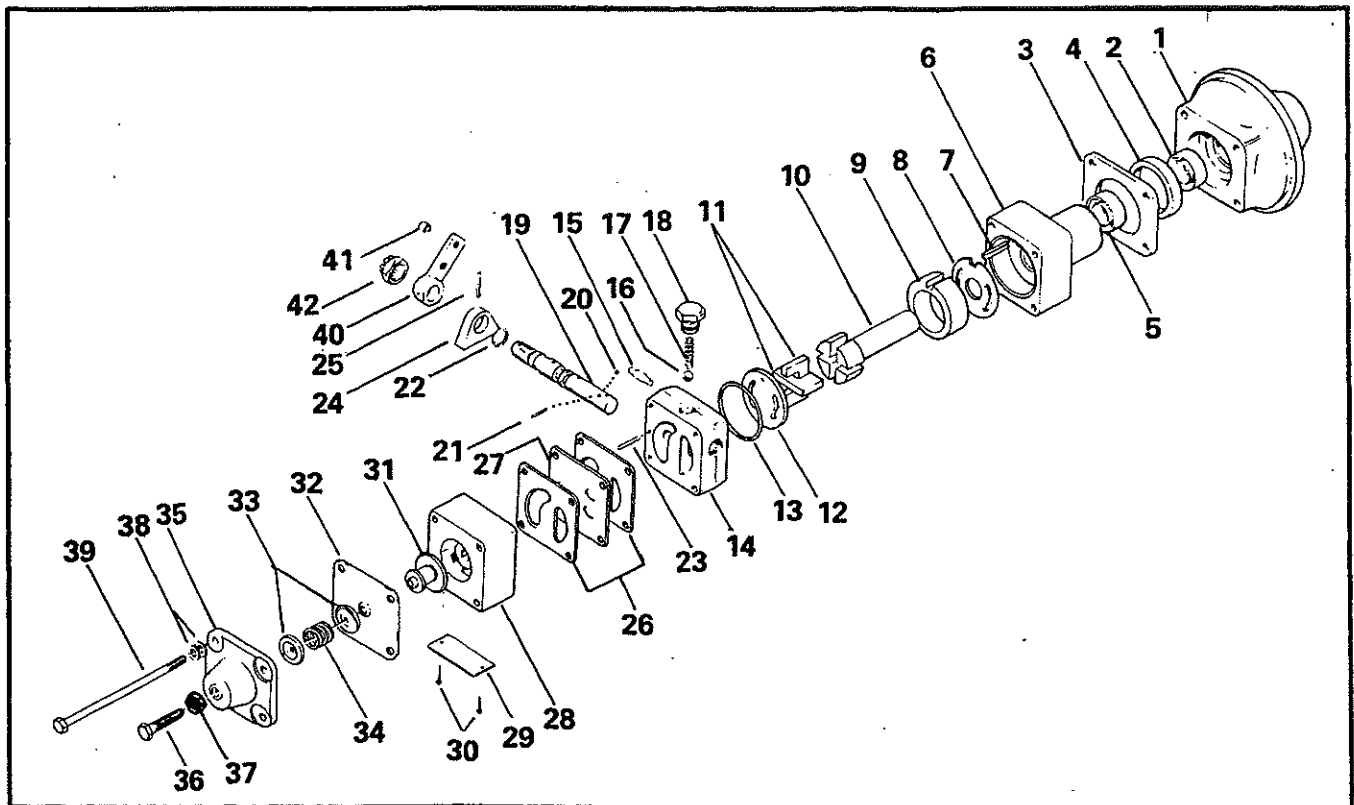

FIGURE 10-01. FUEL PUMP ASSEMBLY.
A. Place pump in suitable fixture and remove all lockwire; and fittings if necessary. Refer to exploded view (Figure 10-01) and proceed as follows: Loosen screw (36) to relieve pressure on relief valve spring. Remove four bolts (39) and washers (38). Separate parts (5) through (13), basic pump from (14) through (18), mixture control body and relief valve section. Disassemble relief valve body and related parts (28) through (36).
B. Disassembly of the basic pump should be accomplished in the following manner: Remove the adapter (1) and insulator (3) from the basic pump. Remove seal (2) from adapter (1) and bushing (4) from body (6). Hold pump body firmly in palm of hand, end plate (12) down, and apply pressure to drive end of shaft (10) forcing end plate (12), end plate seal (13), blades (11) and shaft (10) from pump body. Remove seal (5) and discard. It is important to note the liner position relative to the rotation marking found on top surface of the liner. It must be installed with the proper marking (C or CC) in the up position.
A. Reassemble basic pump (5 through 13) in reverse order of disassembly. Refer to Figure 10-01 and install new seal (5) in body (6). Install pin (7), plate (8) and liner (9) in body (6). Be sure liner is installed with proper rotation lettering visible. Use light machine oil to lubricate shaft (10) and install in pump. Install blades (11) in position and lubricate lightly. Install plate (12) and seal (13) to complete basic pump assembly. Install new seal (2) in adapter (1). Install bushing (4) and insulator (3) on pump assembly and insert into adapter assembly.
remove these washers once they have been torqued, they must be replaced. (Refer Installation Figure 10-01).